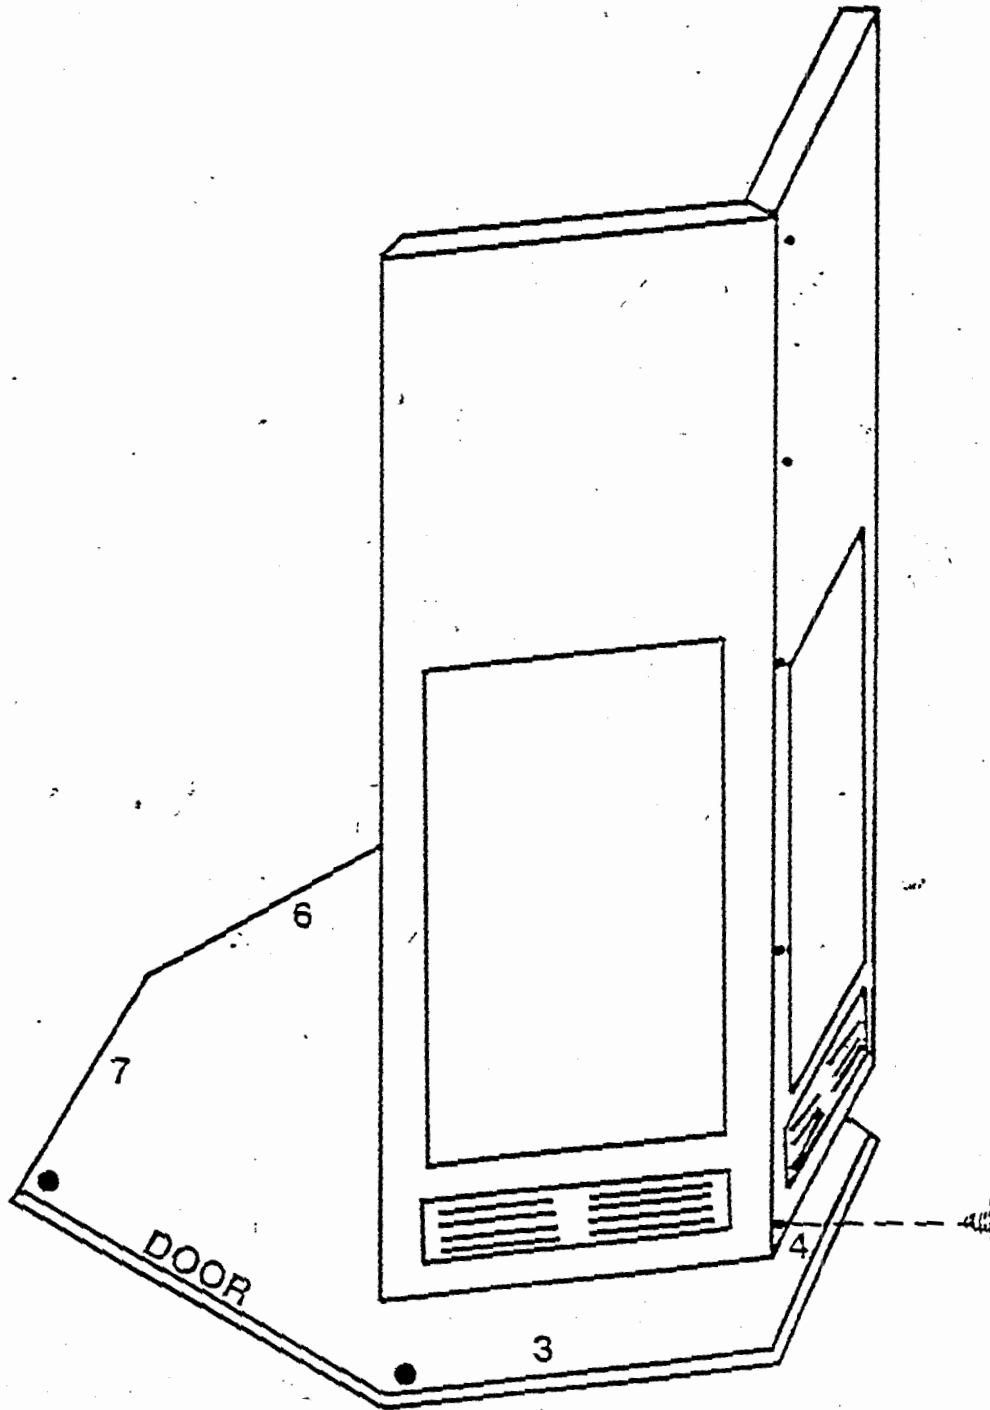

FIGURE 3
4. Install roof-panel. The flex conduit from the light fixture must be inserted through cut-out provided. Make sure both roofs are butted together. (Figure 3)
(FIGURE 3)